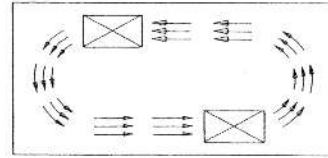

FIGURE 4
4. When installing multiple units it is important that air circulation covers the entire area. (Figure 4.)